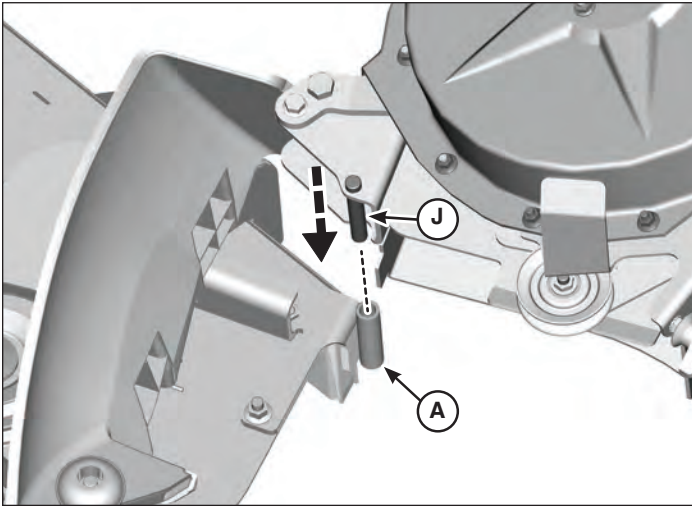

Figure 12
1. Insert mounting pin on turbo assembly (J, Figure 12) into pivot assembly (A).